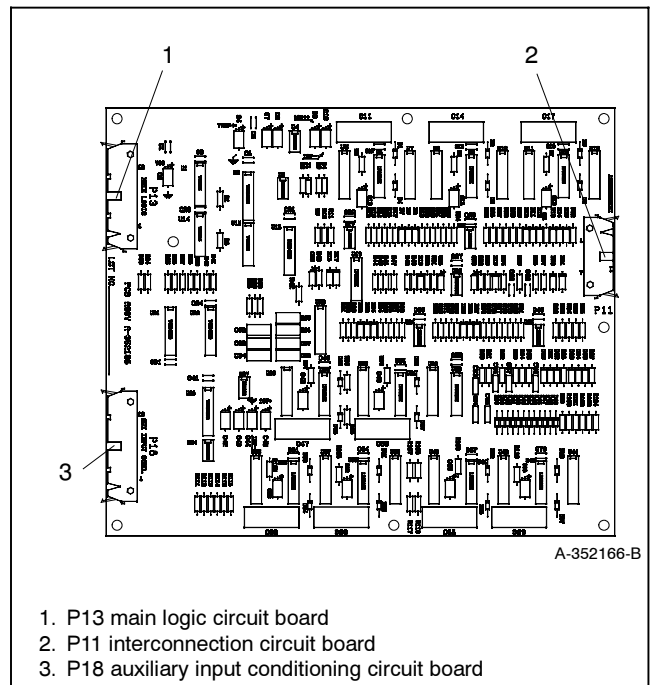

Figure 4-6 Input Conditioning Circuit Board A-352166
- a. Input conditioning circuit board A-352166. See Figure 4-6.
a. Input conditioning circuit board A-352166. See Figure 4-6.